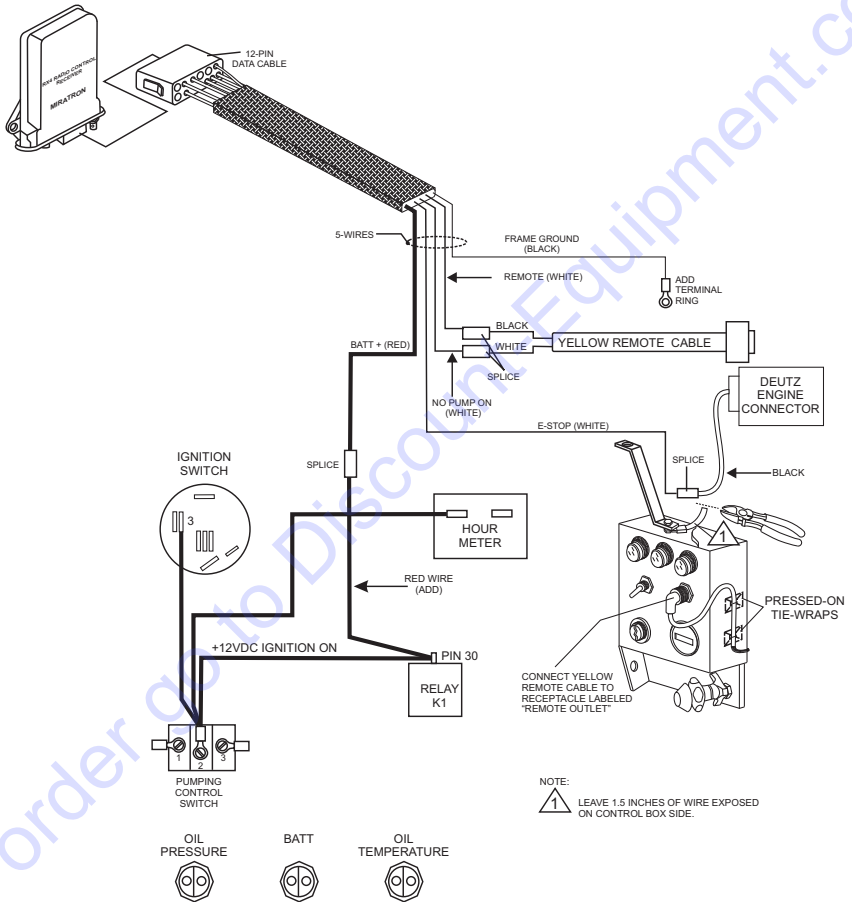

Figure 6. Wiring Diagram
1. Wire data cable into control box as shown in Figure 6.
1. Insert yellow remote control cable (Figure 6) into the 2-pin receptacle labeled REMOTE OUTLET on the control box.
2. Secure yellow remote cable with pressed on tie-wrap pads to side of control box as shown in Figure 6.
3. Wire remote control cable to the control box as shown in Figure 6.